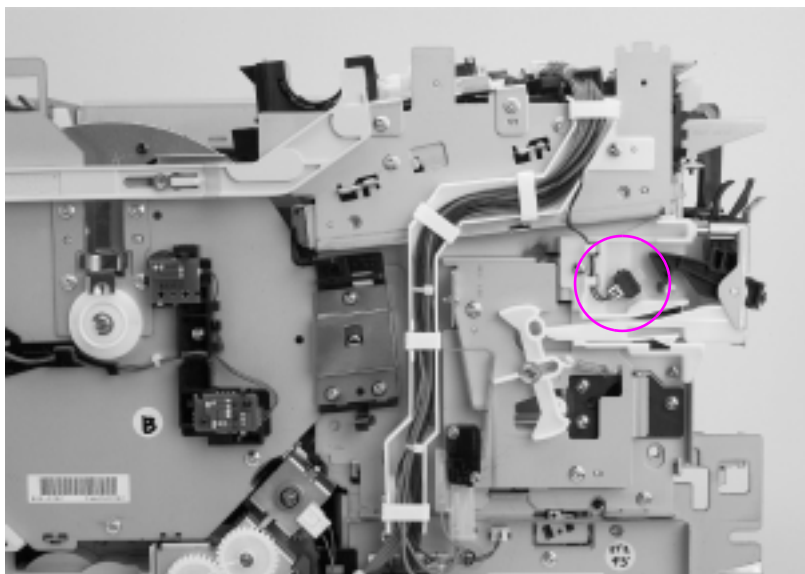

Figure 6-19 Top drawer switch
- 6 Disconnect the top drawer switch (see Figure 6-19).